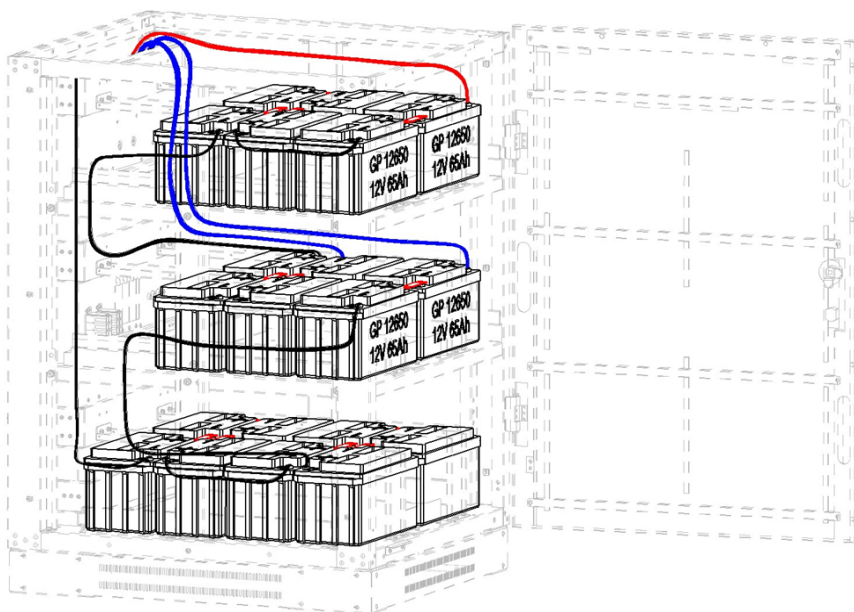
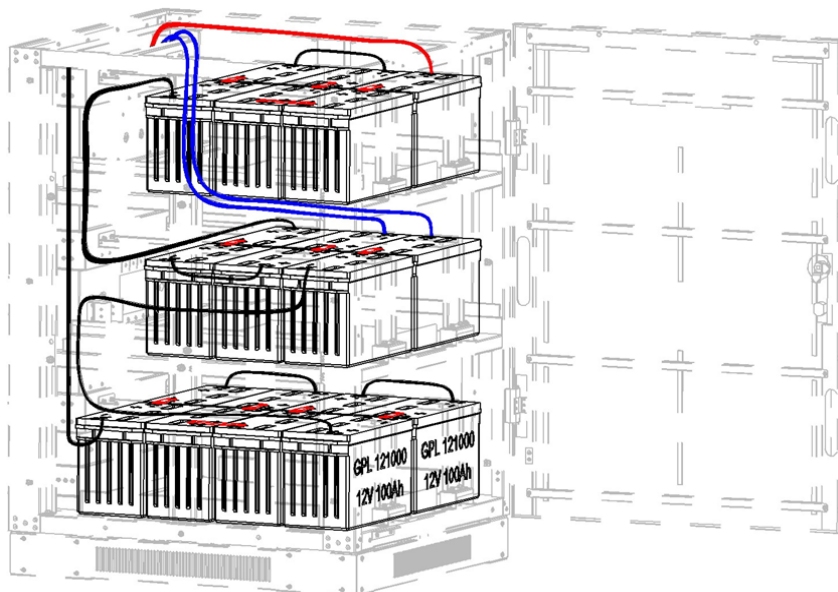
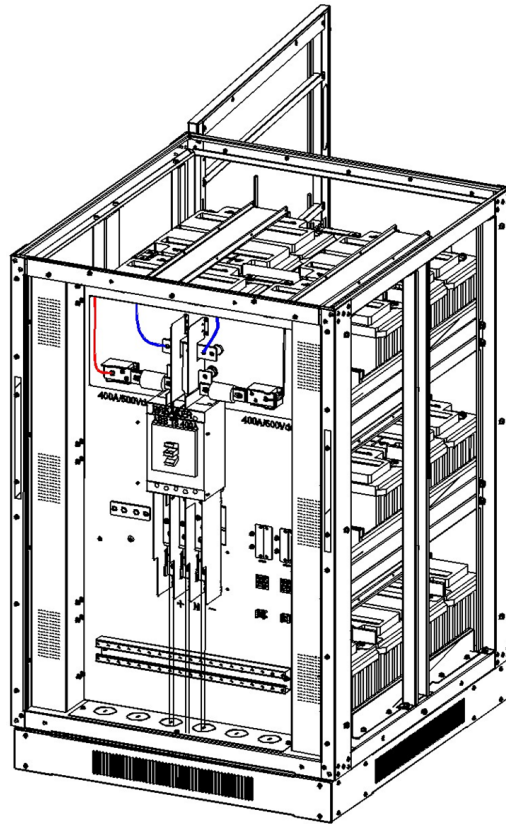

Figure 5-19: Model BP240V65-NIB
Figure 5-20: Model BP240V100-NIB
Figure 5-21
10. Connect the cables from battery 1+ to BAT+ bus bar, battery 10- to BATN bus bar, battery 11+ to BATN bus bar, battery 20- to BAT- bus bar and the layer connect cables (Figure 5-19: Model BP240V65-NIB or Figure 5-20: Model BP240V100-NIB and Figure 5-21).